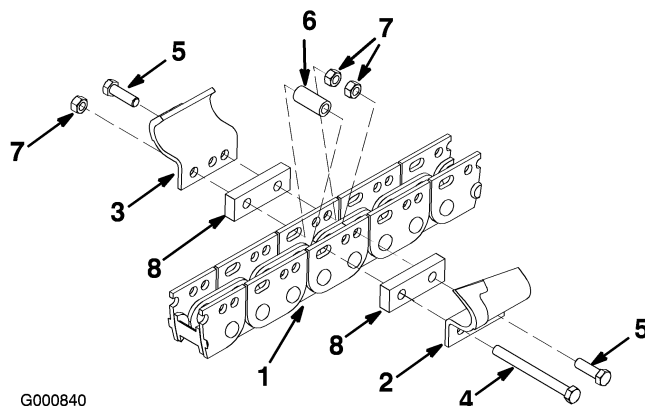

Figure 1
2. On an empty chain link in the front of the trencher, install right and left soil teeth on both sides of the chain as illustrated in Figure 1.
3. Eight chain links back, install right and left soil teeth on both sides of the chain as illustrated in Figure 1.
6. Eight chain links back from the last tooth you installed, install right and left soil teeth on both sides of the chain as illustrated in Figure 1.